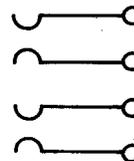

Fig. 7—439A Jack
2.06 439A: This multicontact jack (Fig. 7) is equipped with a number plate holder and the terminals are arranged for mechanically wrapped connections. This jack is used with the 240-type plugs.